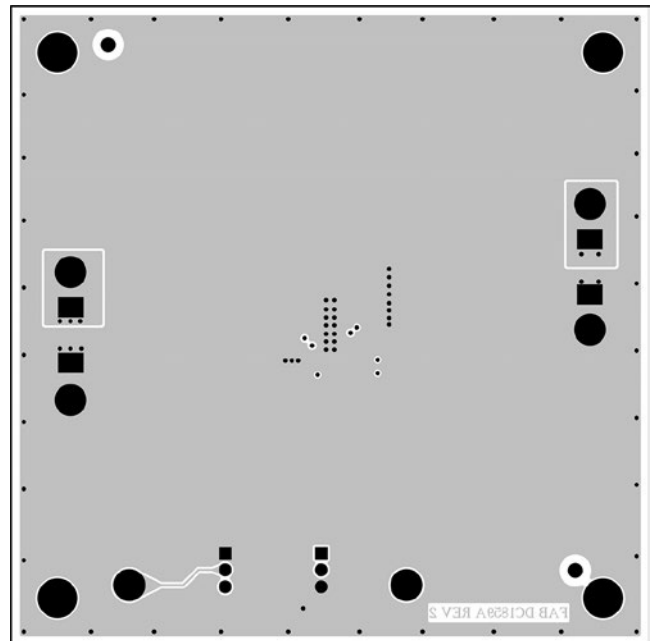

Figure 6. Example PCB Layout
The LTC3124 switches currents as high as 4.5A at high frequencies. Special attention should be paid to the PCB layout to ensure a stable, noise-free and efficient application circuit. Figure 6 presents the LTC3124's 4-layer PCB demo board layout (the schematic of which may be obtained from the Quick Start Guide) to outline some of the primary considerations. A few key guidelines are outlined below:
1. A 4-layer board is highly recommended for the LTC3124 to ensure stable performance over the full operating voltage and current range. A dedicated/solid ground plane should be placed directly under the V_{IN}, V_{OUTA}, V_{OUTB}, SWA, and SWB traces to provide a mirror plane to minimize noise loops from high di/dt and dV/dt edges (see Figure 6, 2nd layer).
2. All circulating high current paths should be kept as short as possible. Capacitor ground connections should via down to the ground plane in the shortest route possible. The bypass capacitors on V_{IN} should be placed as close to the IC as possible and should have the shortest possible paths to ground (see Figure 6, top layer).
- Crossover connections should be made on inner copper layers if available. If it is necessary to place these on the ground plane, make the trace on the ground plane as short as possible to minimize the disruption to the ground plane (see Figure 6, 3rd layer).